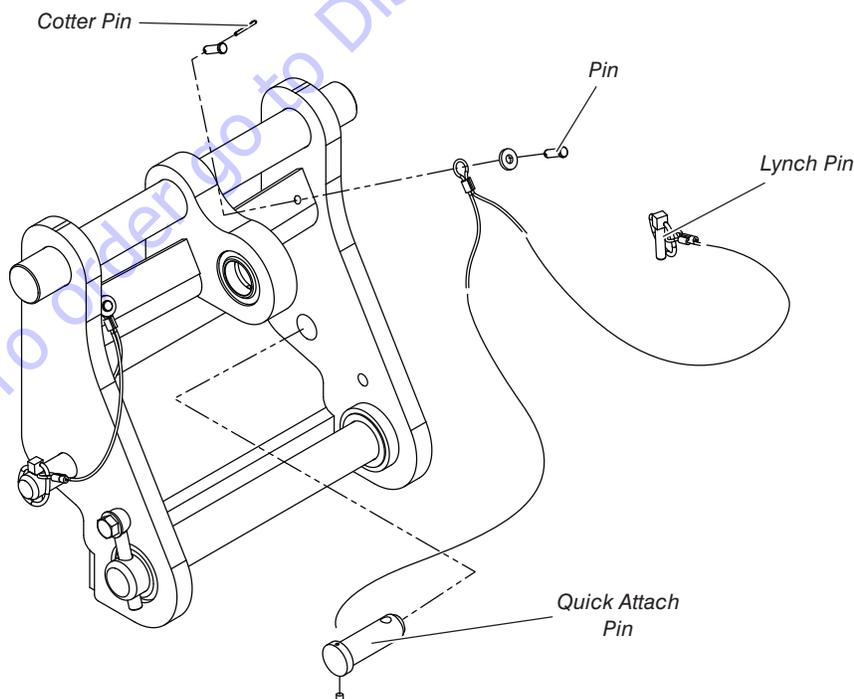

Figure 46 Quick Attach Feature
1. Fasten the tethered pin assemblies to the apron using the pins, washers, and cotter pins (see Figure 46).